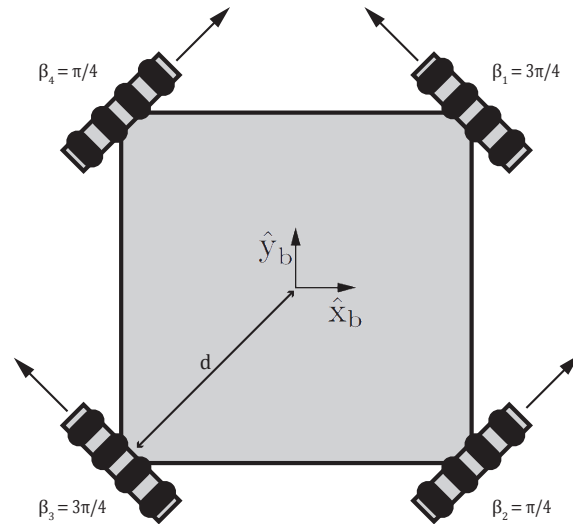

Figure 13.1: 4-wheeled omni-wheel robot drive. The forward driving motions of each wheel are indicated.
- (a) The book derives the kinematic relations for a 3-wheel omni-wheel drive and a 4-wheel mecanum drive. Following the same method, find the $H(0)$ matrix for the 4-wheel omni-drive shown in Figure 13.1.